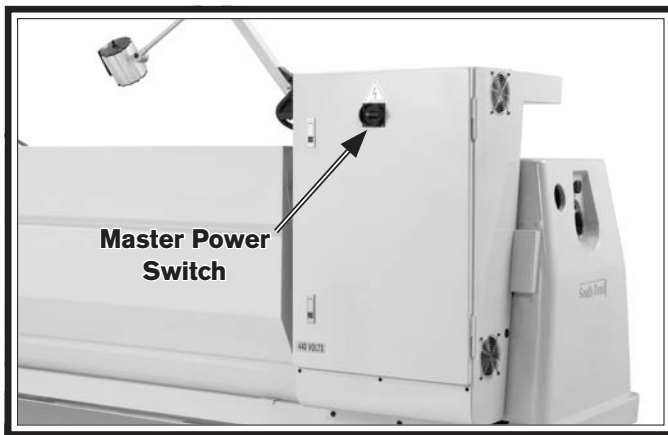

Figure 23. Location of the master power switch.
1. Make sure the master power switch on the rear of the machine is turned **OFF** (see **Figure 23**).